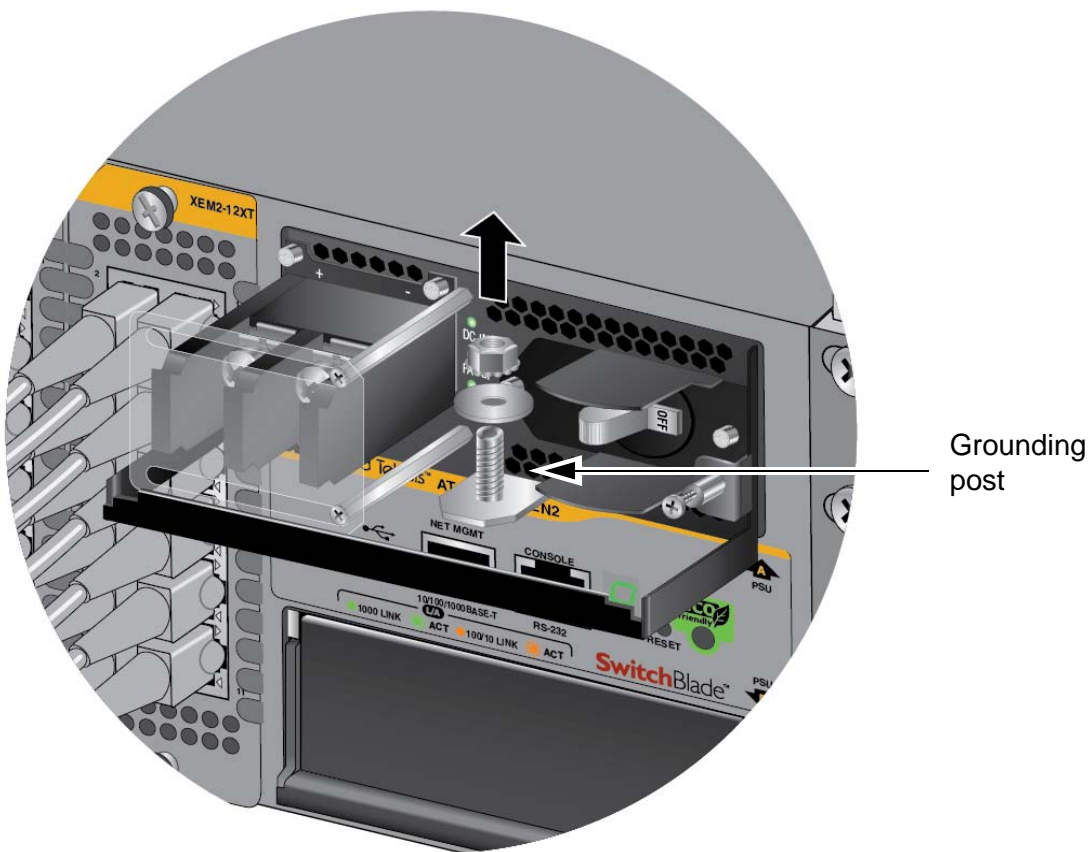

Figure 55. Removing the Nut and Washer from the Grounding Post
4. Use an 8 mm wrench to remove the grounding post nut and washer, shown in Figure 55 on page 88, from the power supply.
3. Use an 8 mm wrench to remove the grounding post nut and washer, shown in Figure 55 on page 88, from the grounding post on the power supply.